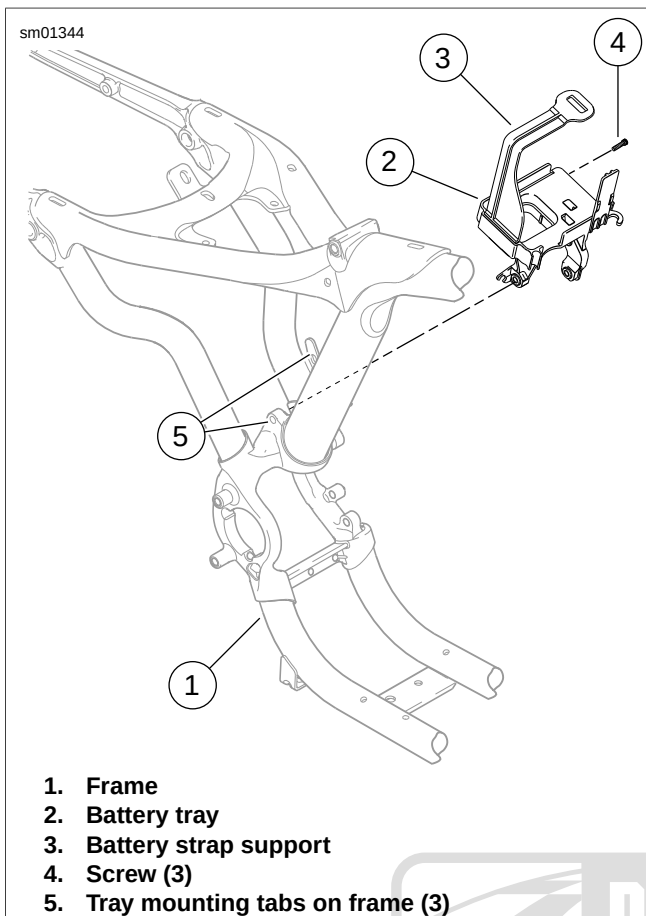

Figure 6-32. Battery Tray Mounting Screws
5. See Figure 6-32. Remove three screws (4) securing battery tray to mounting tabs (5) on frame.
7. Lift up battery tray slightly so that mounting tabs will clear mounts on frame. See Figure 6-32. As you lift up on tray, pull down gently on end of battery strap support (3) to clear frame and wiring harnesses above battery tray.
4. See Figure 6-32. Install three screws (4) to secure battery tray to frame. Do not tighten screws until all three have been started. Then tighten screws to 96-156 **in-lbs** (10.9-17.6 Nm).